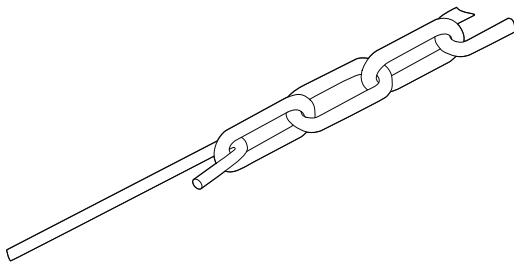

Figure 2. Hook of CLEERBAIL through first link of CLEERCHAIN
- Insert one hook of CLEERBAIL through link #1. (Refer to **Figure 2**).